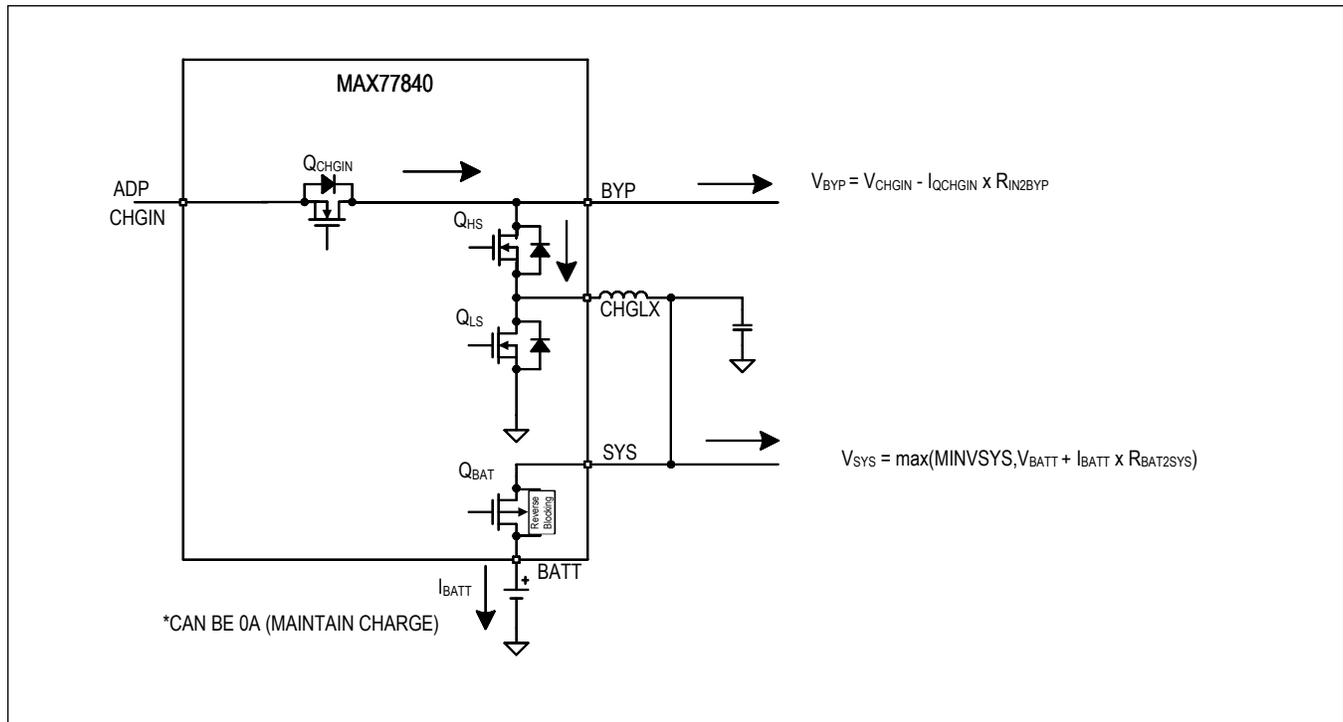

Figure 8. Charge-Buck
6. CHARGE-BUCK, MODE = 0x0D: The adapter is detected within the input voltage operating range (Q_{CHGIN} = on). Battery is connected in charge mode (Q_{BAT} = on) and charger is operating in buck mode, see Figure 8.